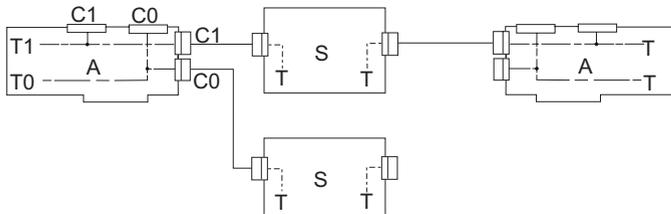
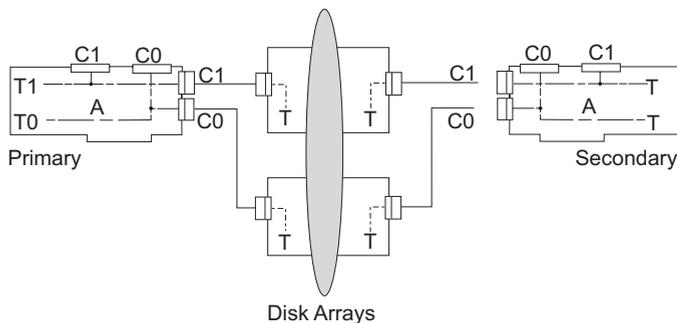

Figure 6. JBOD (512 byte/sector standalone disks (hdisks))
Figure 7. Disk Arrays (522 byte/sector disks (pdisks))
5. Refer to the Figure 6 on page 26 and Figure 7 on page 26 and attach cables from the shared disk enclosures to the same SCSI bus port on each adapter.